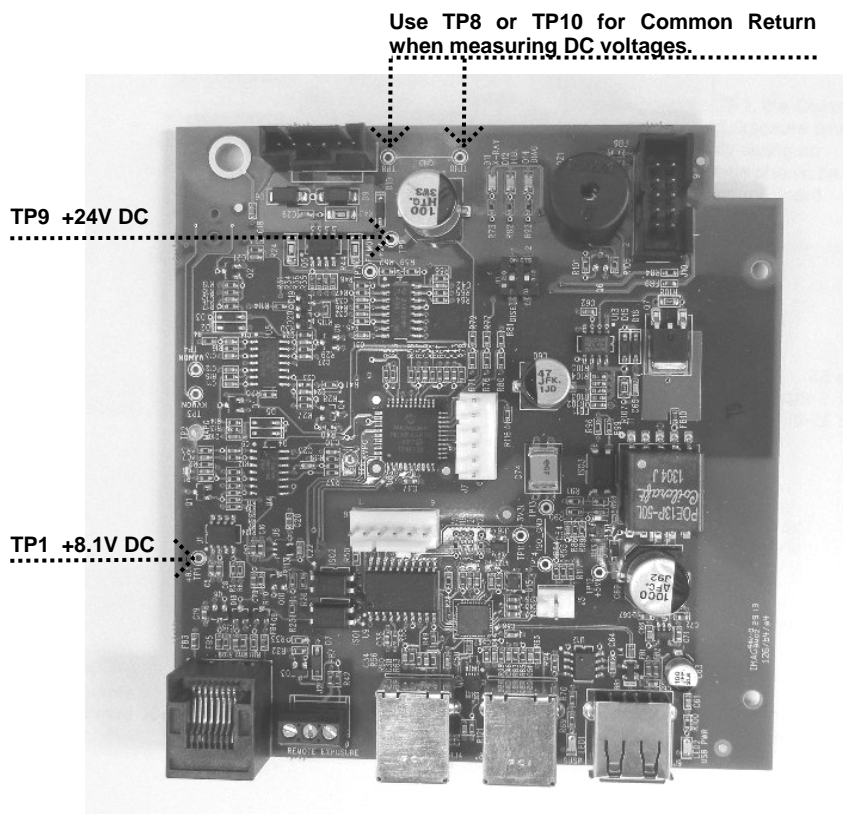
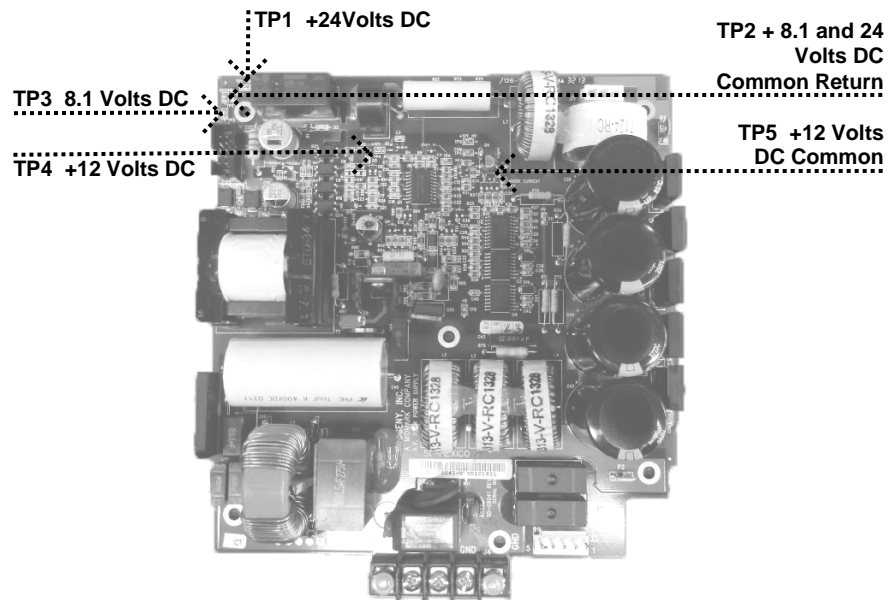

Figure 60
Figure 61
2. On the Power Supply Board, *Figure 61*, use TP2 as a common test point to check TP1 +24 volts DC and TP3 8.1 volts DC. Then, use TP5 as the common return to check TP4 for the presence of +12 volts DC, as shown in *Figure 60*. Should any of these voltages not be present, replace the Power Supply Board.